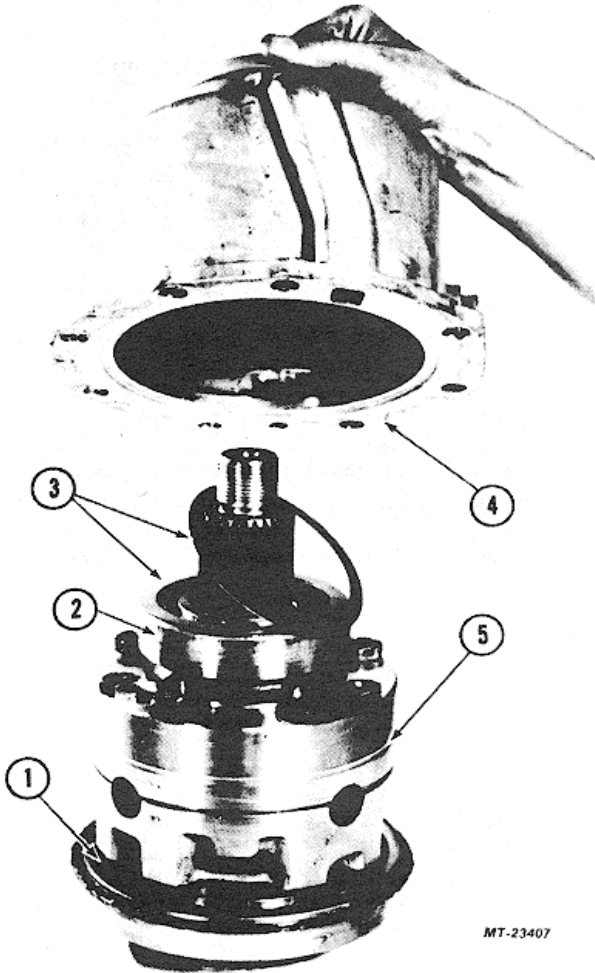

Fig. 41. Shims for Limiting Differential Case-To-Cover (Nose Cone) End Play
5. Remove the differential cover from intermediate case and position shim pack (as determined above) between front bearing and cover (Fig. 41).